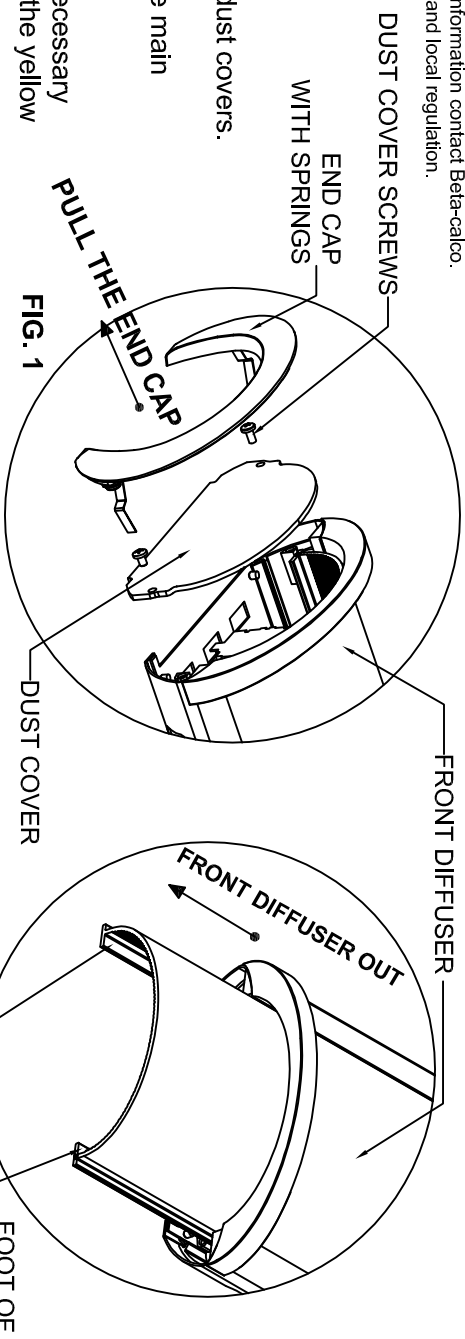

FIG. 1
1. Remove both end caps by pulling it out. (FIG. 1)